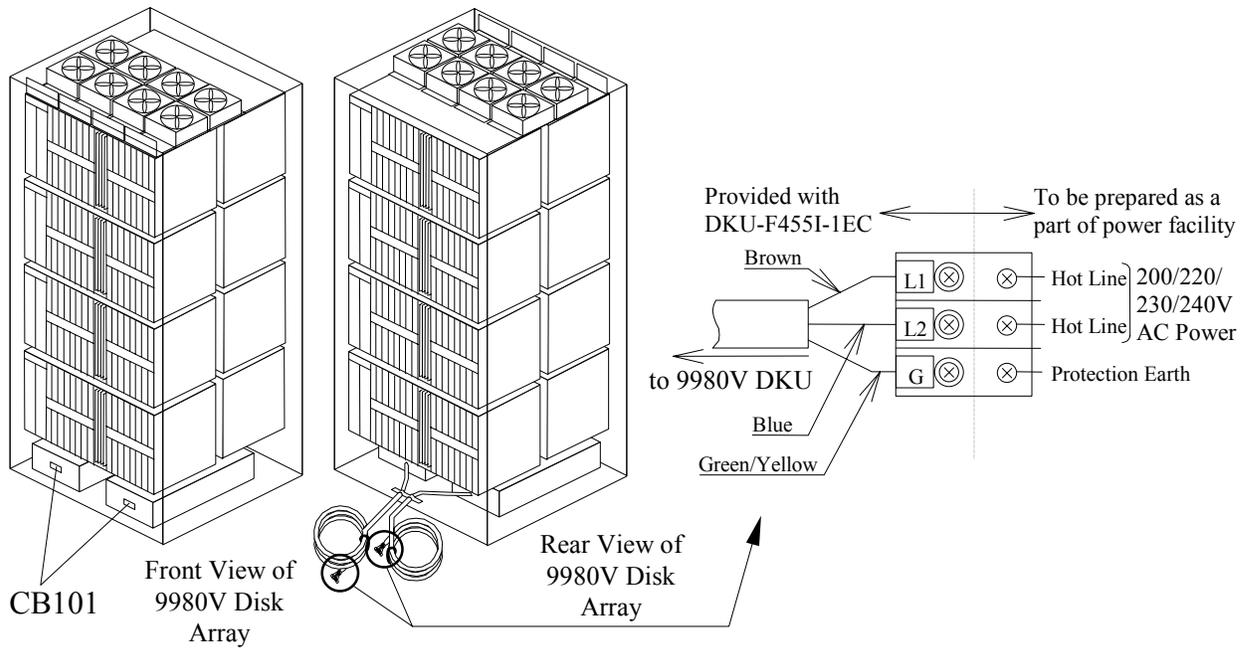

Figure 5.17 Power Plugs for a Single-Phase 9980V Disk Array Unit (Europe)
- Figure 5.17 illustrates the power plugs for a three-phase 9980V disk array unit (Europe).